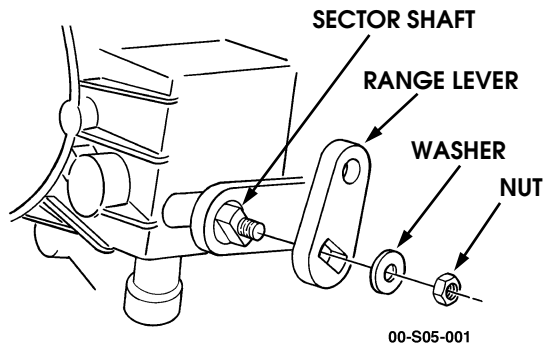

Figure 5-94: Range Lever Mounting
15. Remove range lever nut, washer and lever from sector shaft (Figure 5-94).